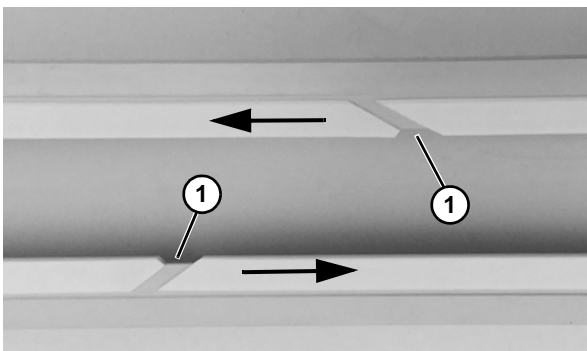

Figure 34
2. Allow a space of approximately 10 mm (**Figure 34, item 1**) between two slide rail ends. The travel direction is indicated by an arrow.